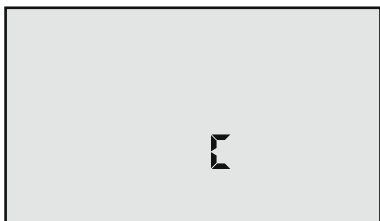

Figure 8
2. Press  repeatedly until either "C" or "F" is displayed. (see Figures 8 and 9).